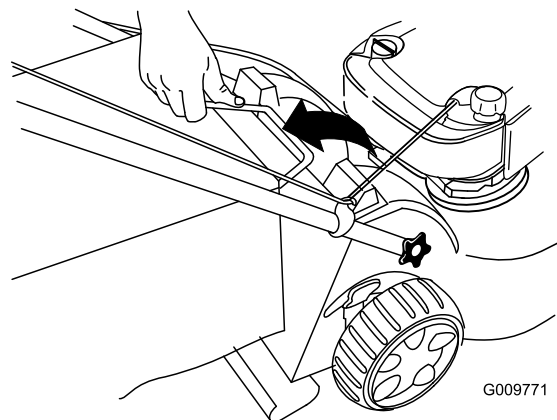

Figure 33
2. Lift the grass bag handle out from the grooves at the top of the mower and remove the bag from the mower (Figure 33).